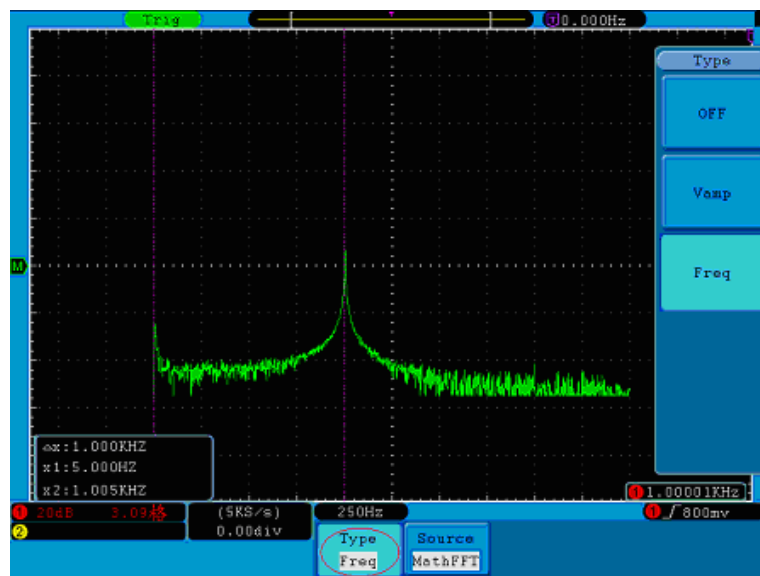

Figure 73. Wave of Freq cursor measurement.
- 3 According to the measured waveform, adjust the positions of Cursor1 and Cursor2 by turning the **VERTICAL POSITION** knob of CH1 and CH2. Increment window shows two cursors difference value and the present position. (See Figure 73.).